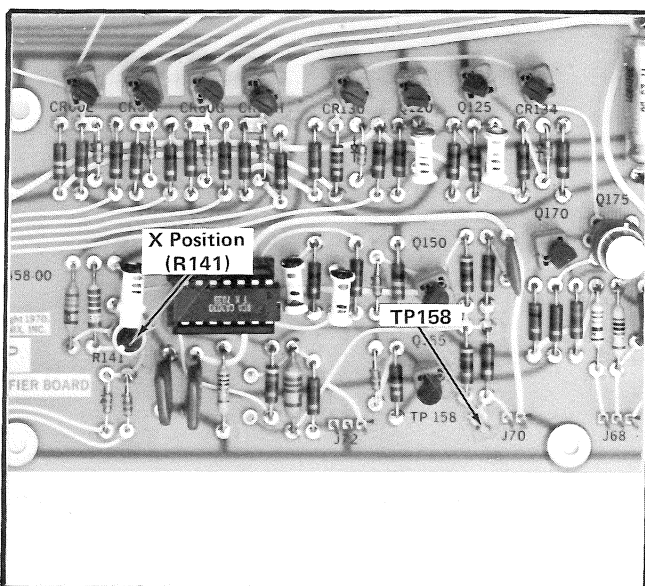

Fig. 5-3. Location of TP158 and X Position adjustment.
h. Adjust R141 (X Position), shown in Fig. 5-3, for the same voltage noted in part (e) of this step. This voltage must be more negative than -0.8 volt.
l. The positioning range of channel 7 and channel 8 POSITION controls can be checked for a range from -0.8 volt to $+0.8$ volt in the same manner as given above for channels 5 and 6. Normally checking the range of one channel (for example channel 5) at TP158 when PAIRED with that at TP108 when ON ensures that the other three POSITION controls will have sufficient range. The positioning range of all controls was checked in step (3) and part (h) of this step matched the PAIRED and ON levels.
- b. Connect the 1X probe to TP158 (see Fig. 5-3) and check for ramp amplitude of 1 V (5 divisions).